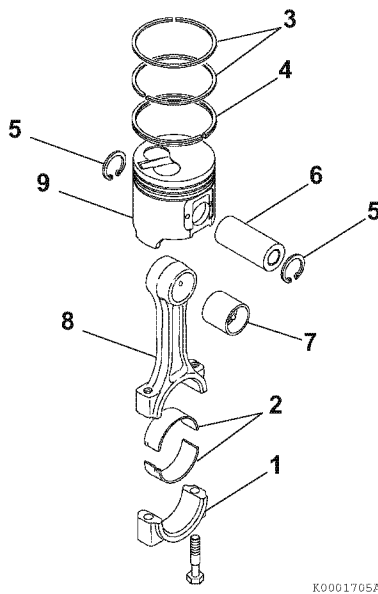

Figure 6-55
11. Remove the bearing inserts (Figure 6-55, (2)).
12. Remove the compression rings (Figure 6-55, (3)) from the piston using a piston ring expander.
13. Remove the oil ring (Figure 6-55, (4)) from the piston using a piston ring expander.
14. Remove the circlips (Figure 6-55, (5)) from the wrist pin.
15. Remove the wrist pin (Figure 6-55, (6)) and connecting rod (Figure 6-55, (8)) from the piston (Figure 6-55, (9)).